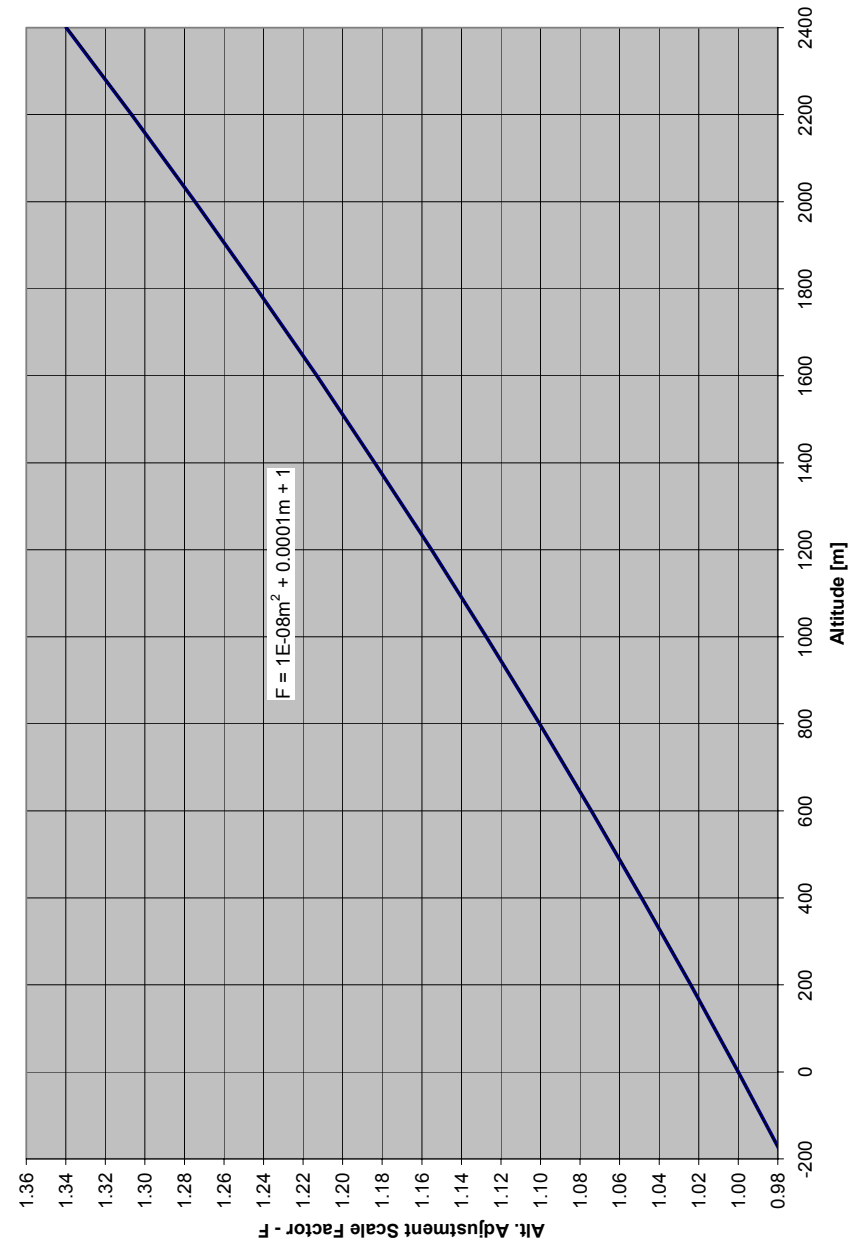

Figure 1 - Atmospheric Pressure Correction Factor
- Atmospheric Pressure Influence: As the 2240 is calibrated at standard sea level conditions, hydrogen readings must be corrected for altitude. To compensate for altitude variations, multiply the instrument reading by the correction factor indicated in Figure 1.